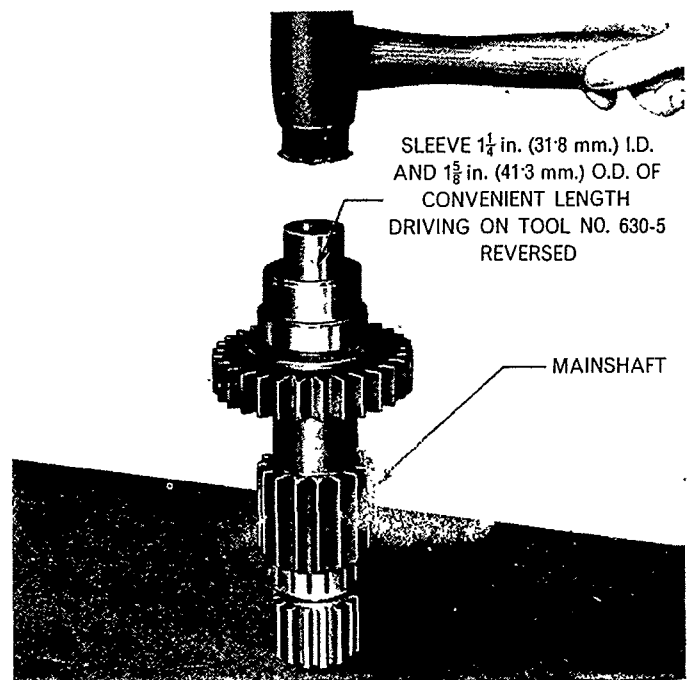

Figure 80
7. If necessary, install a new P.T.O. drive shaft oil seal (after lightly greasing the sealing lip) in the forward end of the mainshaft, with the sealing lip facing rearwards, using Tool No. 630-5 (reversed) and sleeve $1\frac{1}{4}$ in. (31.8 mm) I.D. and $1\frac{5}{8}$ in. (41.3 mm) O.D. of convenient length, Figure 80.